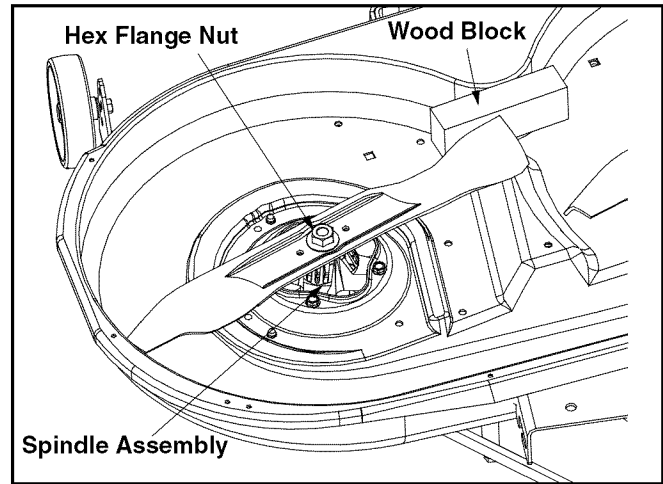

Figure 17
- Place a block of wood between the center deck housing baffle and the cutting blade to act as a stabilizer. See Figure 17.
- Use a 15/16" wrench to remove the hex flange nut that secures the blade to the spindle assembly. See Figure 17.